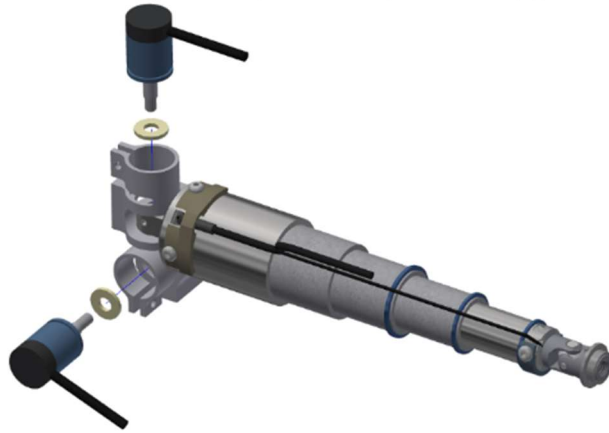

Figure 5-30. Remove potentiometers and washers from the assembly
- 5.2.25 Remove the two potentiometers and two #6 Flat Washer Nylon 0.170 X 0.375 X 0.045 from the IR-TRACC Base (474-3762) and the IR-TRACC Arm Mounting Bracket (474-3763) per assembly (Figure 5-30).